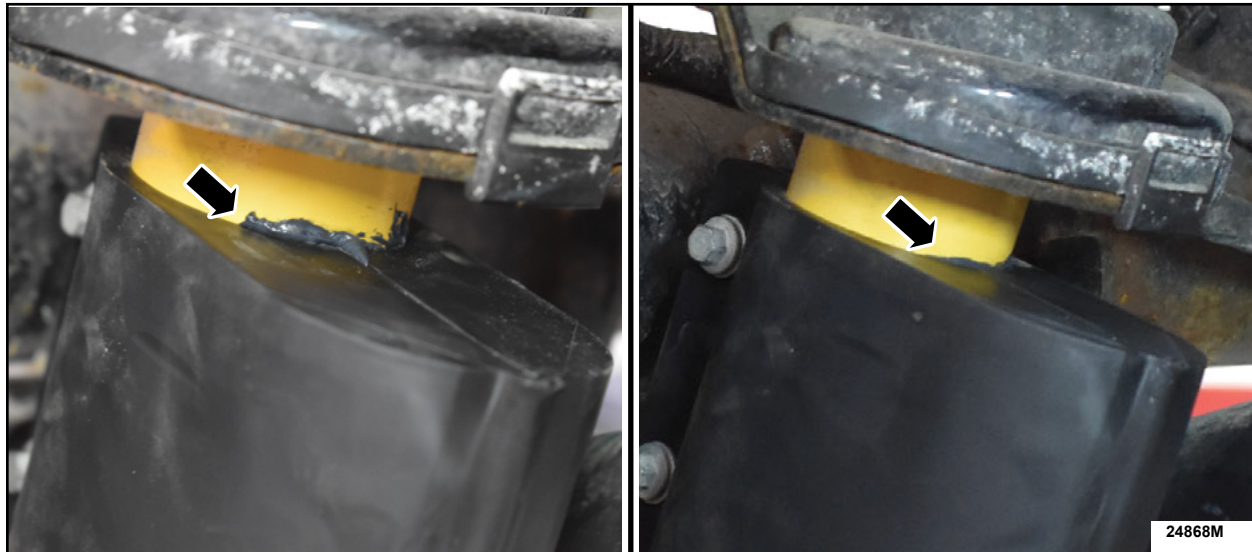

FIGURE 11
11. On both sides, clean off any excess sealant that may be exposed from installing the shock absorber external reservoir retention clamp/shield. See Figure 11.